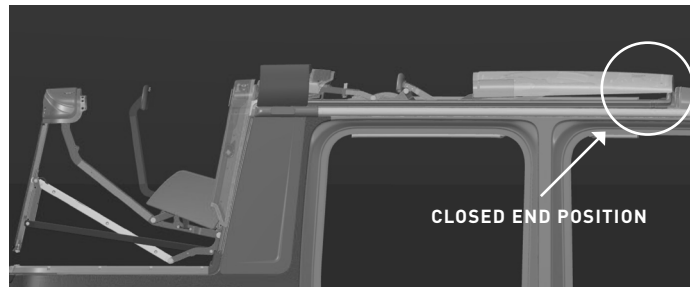

Fig. 13
- Move the soft top manually to the fully closed end position (Fig. 13).